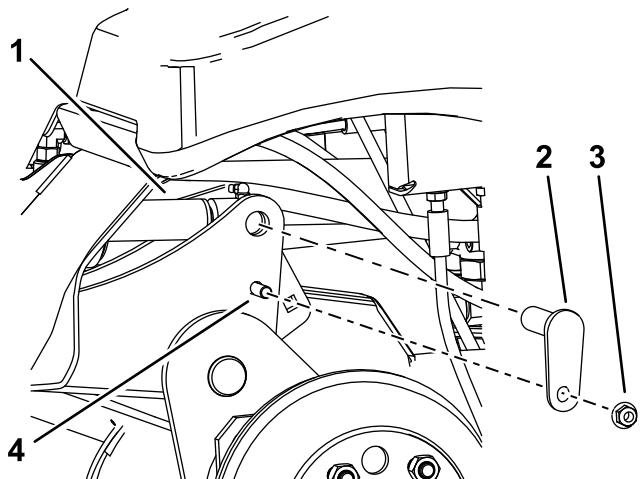

Figure 9
C. Use a drift punch to align the cylinder rod holes with the lift-arm holes (Figure 9).
D. Use 2 bolts (3/8 x 1-1/4 inches), 2 nuts (3/8 inch), and 2 small pins to secure the lift arms to the cylinders (Figure 9).